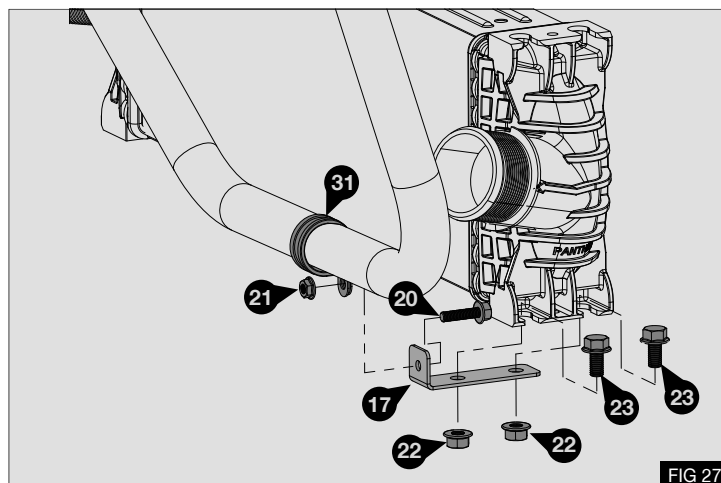

FIG 27
4. Fit the hose support plate (17) using 2x M8 x16 bolts (23) and M8 nuts (22). When the bracket is secured fix the hose using Pipe clip (31) with M6x 25 bolt (20) and M6 nut (21). - Fig 27
6. Re-fit the plastic guard (B) using the original fasteners